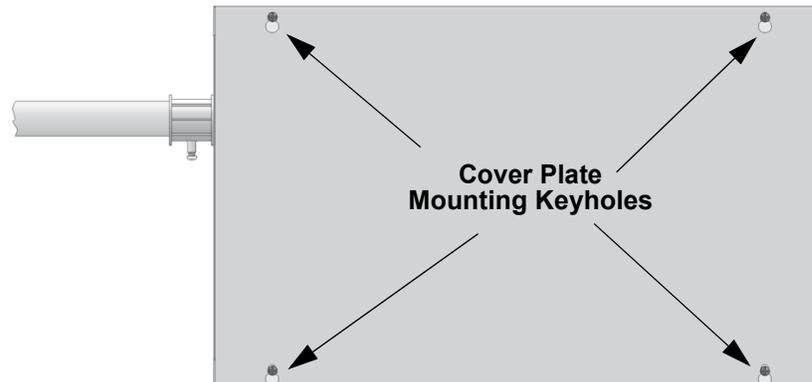

Figure 4.7 Cover Plate Mounting Keyholes and Cover Mounting Screws Alignment
- Align the cover plate mounting keyhole over the cover mounting screws. See Figure 4.7.
- Slide the cover into place and tighten the cover mounting screws. See Figure 4.7.